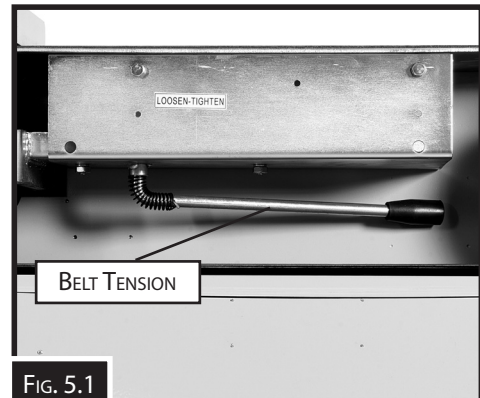

FIG. 5.1
2. Making small adjustments, turn the belt tracking adjustment knob clockwise to move the belt to the left, or turn the knob counterclockwise to move the belt to the right (Fig. 5.1)
3. Loosen the belt by moving the belt tension lever all the way to the left. (Fig.5.1)